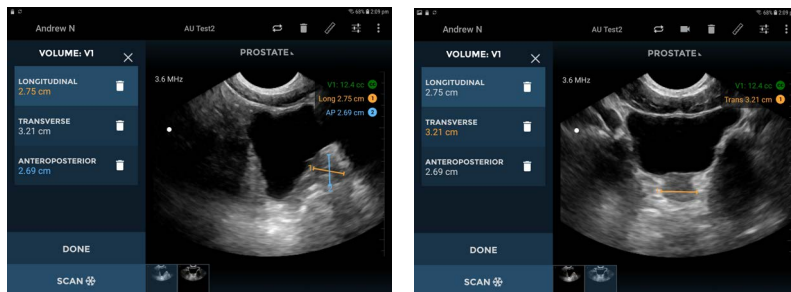

FIGURE 31. Resulting volume measurements
- Volume Measurements measure an ellipsoid volume using three caliper measurements (longitudinal, transverse, and anteroposterior) across two images (see FIGURE 31. Resulting volume measurements). The longitudinal and anteroposterior measurements are positioned on the first image, and the transverse measurement is positioned on the second image. The first and second images must be orthogonal.